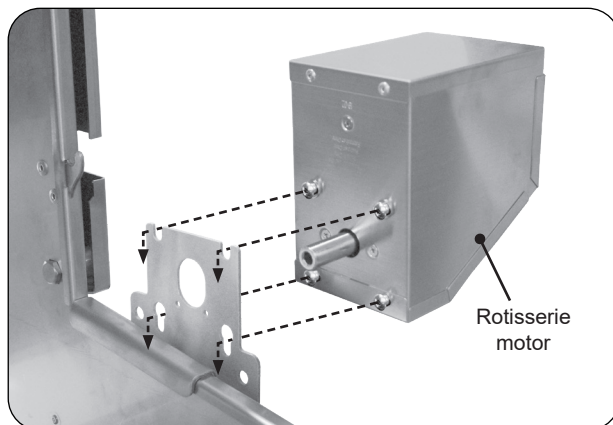

Fig. 36-2 Install rotisserie motor
2. Slide the rotisserie motor fully onto the motor bracket located on the right side of the grill (see Fig. 36-2) and connect it to a power source (do not turn on).